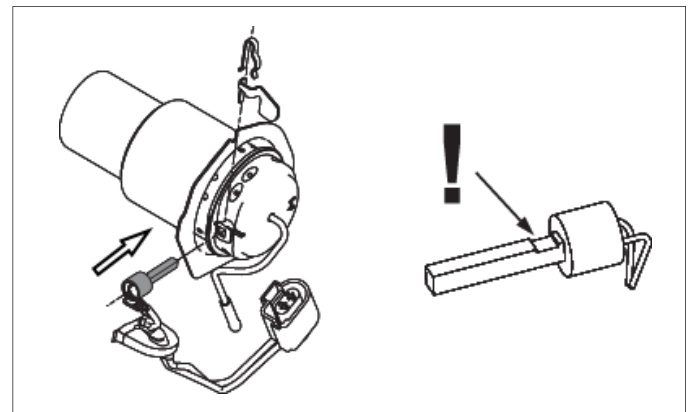

Fig. 909 Installing glow plug
1. Position combustion pipe with evaporator mount horizontally toward rear (see Fig. 909).